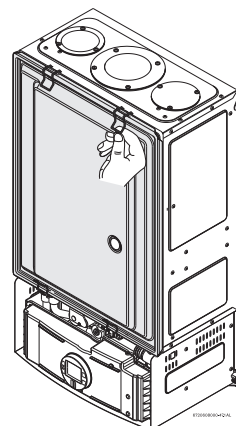

Fig. 5 Remove the combustion cover
- ▶ Open the four clips and remove the combustion cover see Fig. 5.